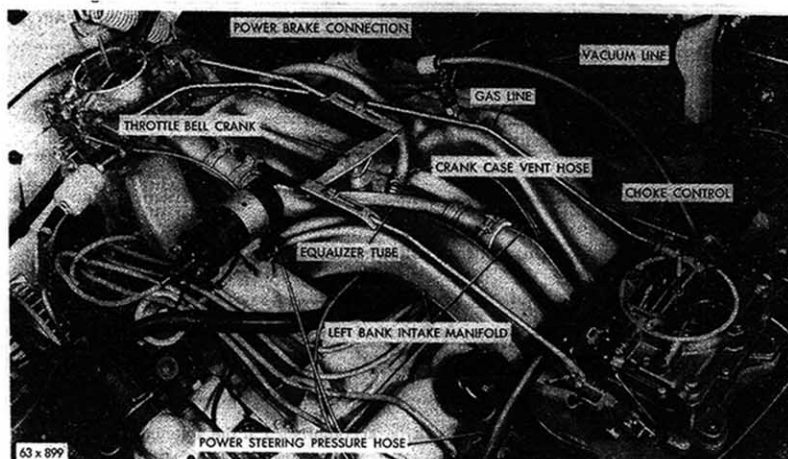

Fig. 16 - FirePower 390 Engine Intake Manifolds
- (16) Remove the left air cleaner.
- (17) Disconnect the crankcase vent hose at the equalizer tube (Fig. 16).
- (18) Disconnect the left throttle rod at the throttle bell crank and at the carburetor.
- (19) Disconnect and remove the equalizer tube at the right hand intake manifold.
- (20) Disconnect and remove the gas line from both carburetors.
- (21) Disconnect the manual choke control from the left hand carburetor.
- (22) Disconnect the power steering hoses at the steering gear valve. Fasten the ends of the hoses above the oil level in the pump reservoir. Cap hoses and valve housing fittings.
- (23) Disconnect the power brake and vacuum source at the intake manifold.
- (24) Raise the vehicle.
- (25) Remove the left front wheel.